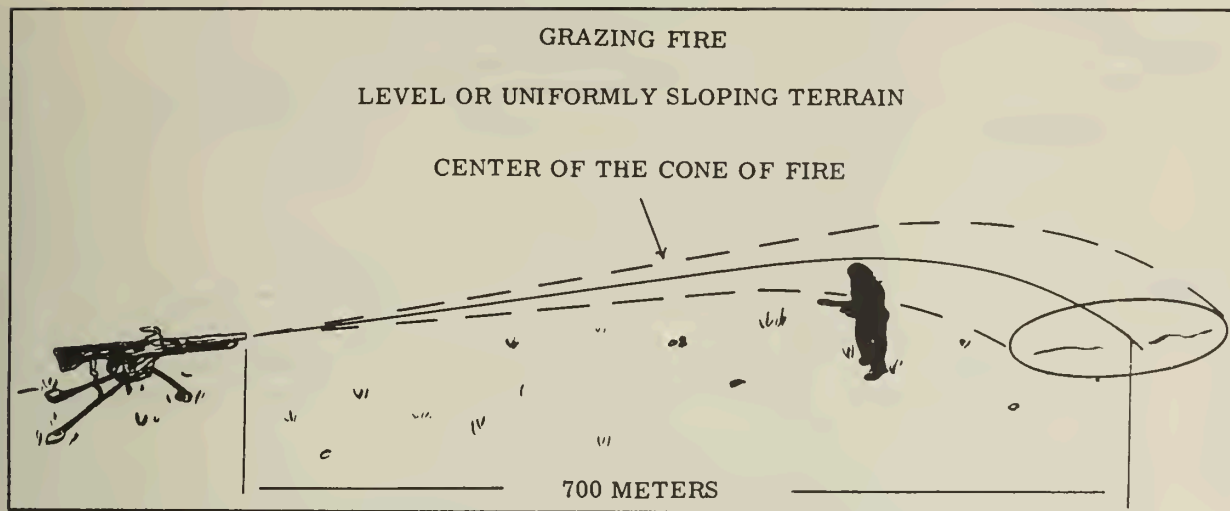

Figure 104. --Grazing Fire.
e. Cone of Fire. --All the bullets in a burst of fire do not follow the same path. The vibrations of the gun and mount, variations in ammunition, and atmospheric conditions combine to cause each trajectory to differ slightly from the others in that burst. The group of trajectories in a single burst is called the cone of fire. (See fig. 104.)
(1) Grazing Fire. --Grazing fire is defined as fire in which the center of cone of fire does not rise above the height of a man standing; approximately six feet. Over level or uniformly sloping terrain, the M60 will deliver grazing fire up to 700 meters range. Danger space is that area where a man cannot safely stand. An average sized man standing anywhere along the gun target line will be struck by a round when grazing fire is being delivered. (See fig. 104.)